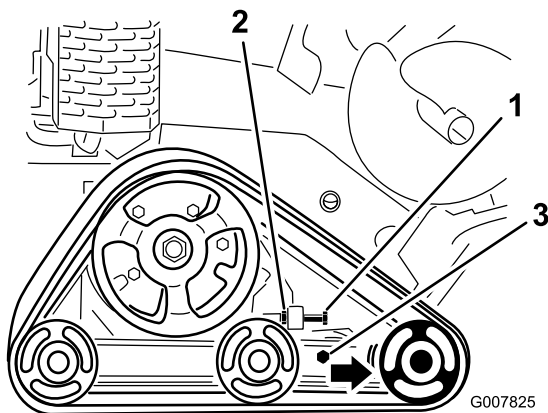

Figure 60
3. Loosen the jam nut on the track tensioning bolt and the clamp bolts on the tension arm (Figure 60).
4. Torque the tensioning bolt to 32.5 to 40 N·m (24 to 30 ft·lb) to tighten the track (Figure 60).
4. Back out the tensioning bolt and jam nut (Figure 60).
5. Loosen the clamp bolts (Figure 60).